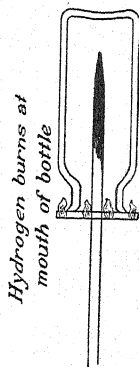

FIG. 49. — Hydrogen burns, but it does not support combustion.
**50. Chemical Behavior of Hydrogen.** *Hydrogen* burns with a very hot, pale blue, nearly invisible flame, forming water as its *only* product of combustion. (See Fig. 48.) We may show that *hydrogen does not support combustion* by thrusting a blazing splinter up into a bottle of hydrogen, held mouth downward, as shown in Fig. 49. The hydrogen is ignited and burns at the mouth of the bottle, but the burning splint is extinguished.